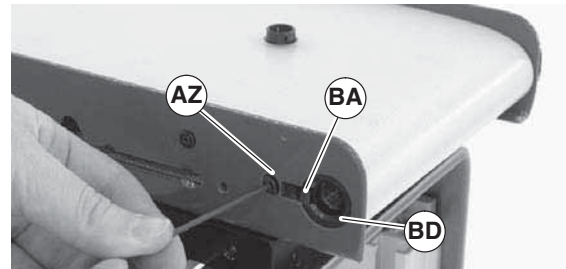
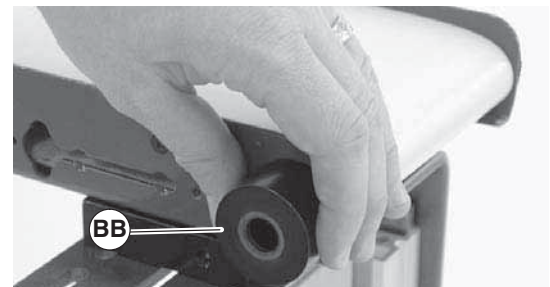

Figure 33
Figure 34
3. Loosen but do not remove screw (Figure 33, item AZ). Push until pulley retaining sleeve clip (BA) pushes out.
4. Remove retaining clip (BA) and screw (AZ).
5. Position bearing anvil/sleeve removal tool (Figure 34, item BB) (25-09, part of tool kit 4500) over retaining sleeve (Figure 33, item BD).
6. Insert bolt (Figure 35, item BC) (906-278, part of tool kit 4500) into retaining sleeve (Figure 33, item BD).